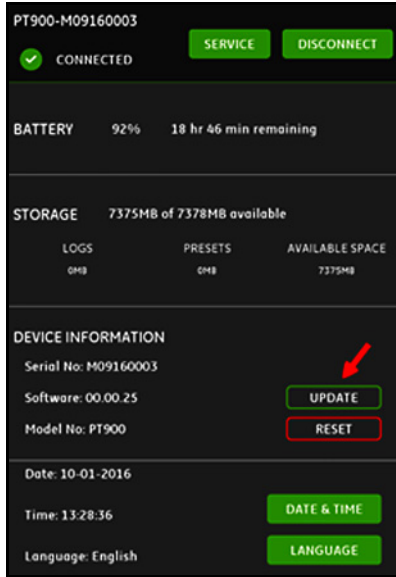

Figure 121: UPDATE Button in TRANSMITTER Menu
- In the APP TRANSMITTER menu, click the **UPDATE** button (see *Figure 121* below) to start the update.